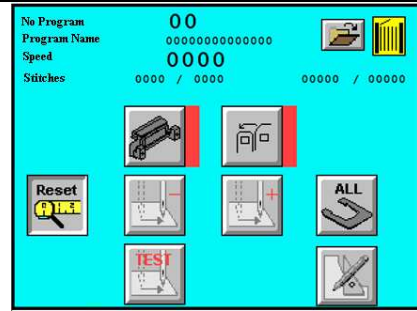

Fig. 7
14.1.1 Deactivate the “AUTOMATIC” button , press the pedal until the screen as fig. 7 appears.